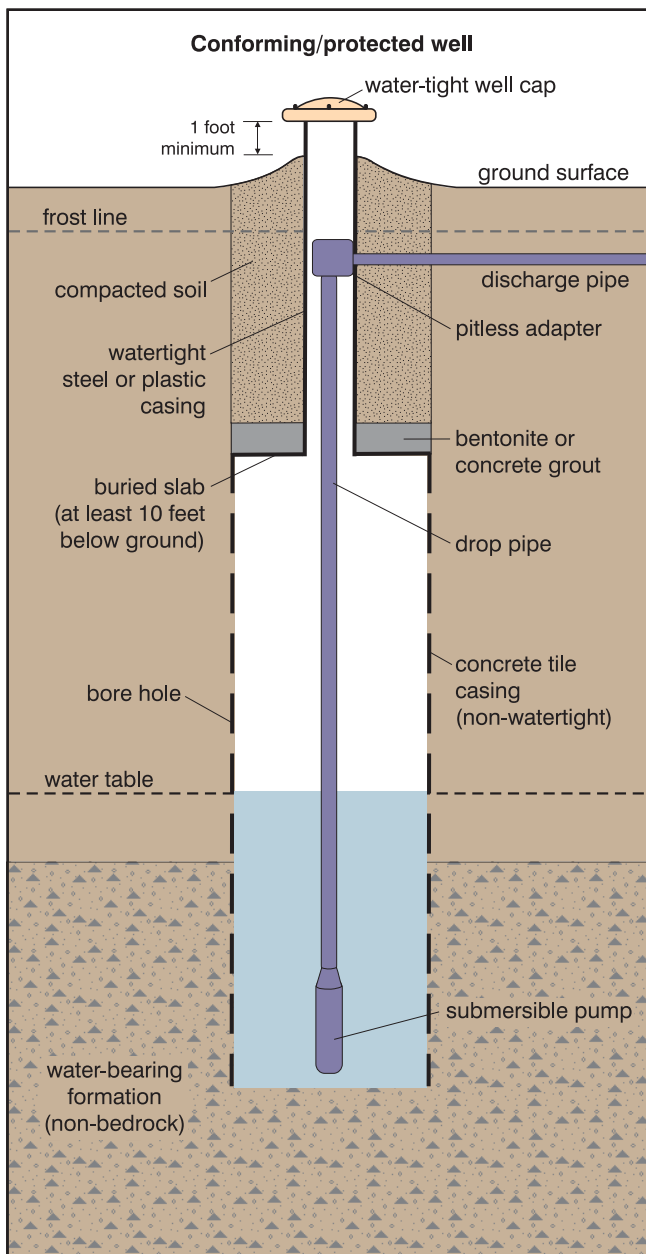

Figure 3. Buried slab design for bored well.
- **Large-diameter bored or augered wells** (Class 1 wells) usually found in western, southern, and central Iowa draw water from either small sand deposits or from where the loess and glacial till meet. Older, large-diameter, hand dug wells were usually cased with brick or field stone. Bored or augered wells were constructed with clay tile or concrete tile. These older, large-diameter wells that do not utilize a buried slab often produce water that is high in coliform bacteria and nitrate. Figure 3 shows a large-diameter well that uses buried-slab construction as required by code.